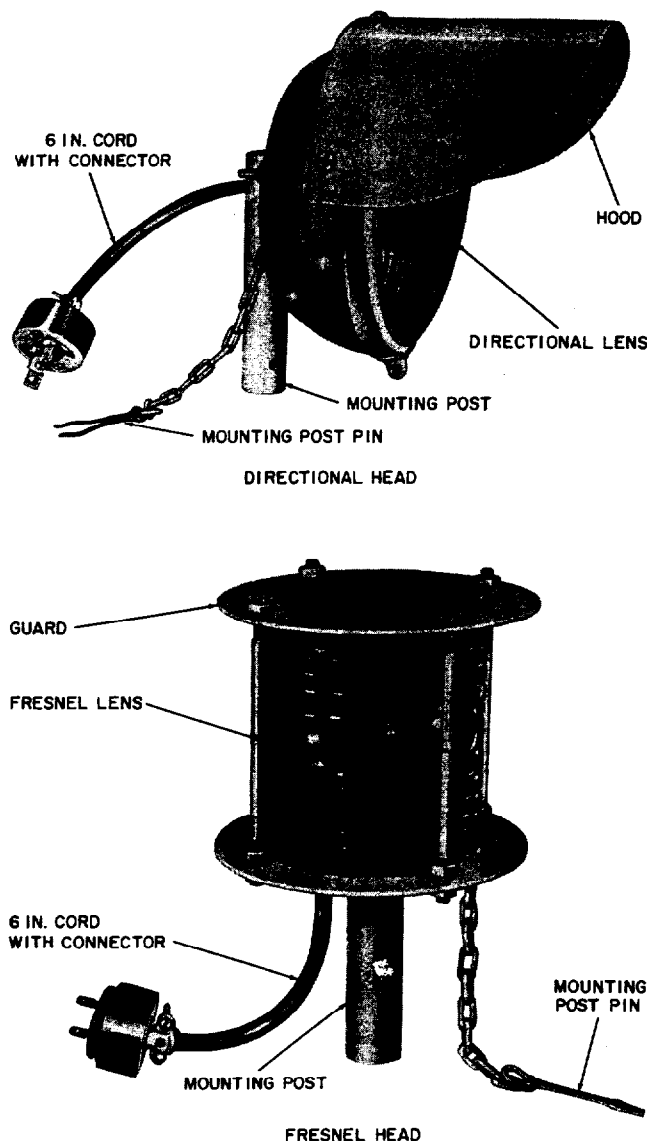

Fig. 5 — Lamp Heads for D Warning Flasher
2.06 There are two types of D Warning Flasher lamp heads (Fig. 5). One is a cylindrical 360-degree fresnel type lens with the lens enclosing a 7-watt filament lamp in a partially guarded fixture. The other is a directional type which has a 7-watt filament lamp positioned at the focal point of a silvered parabolic reflector. The lamp is enclosed in a hooded housing equipped with a spread beam lens. Both types of lamp heads are provided with captive spring pins for securing them to the warning mast and